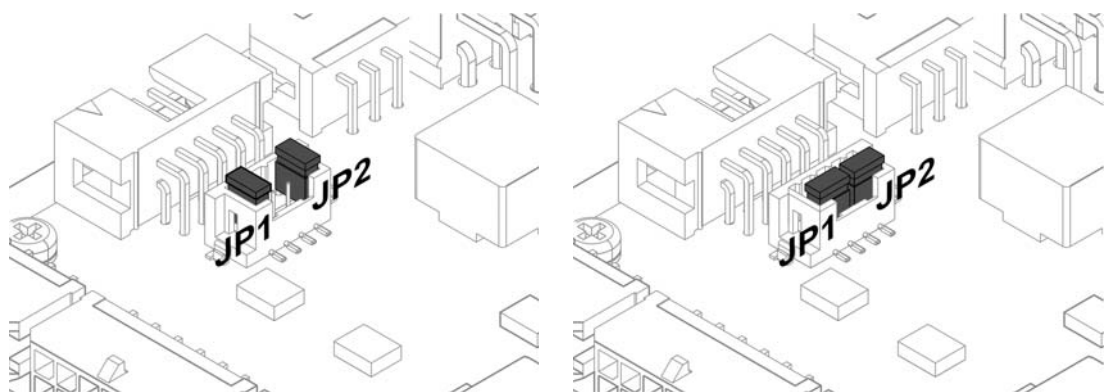

Figure 3-10 Jumpers JP1/JP2 – OPEN; Factory Setting (left) / CLOSED (right)
- 2) Set jumpers JP1 and JP2 to “closed” position (→Figure 3-10, right).